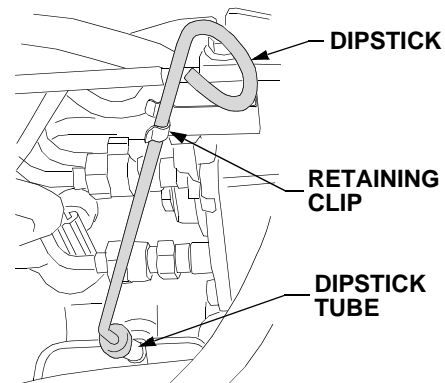
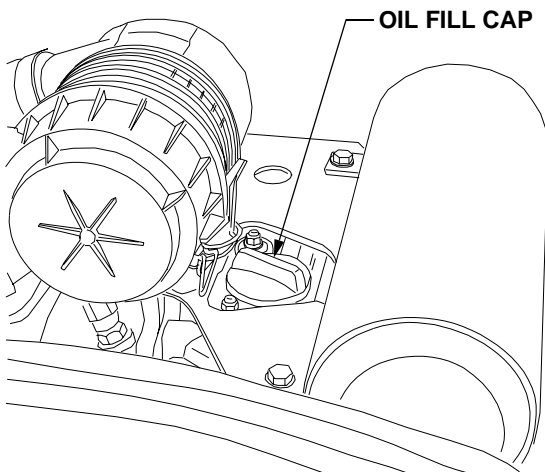

Figure 52
Figure 54
- Check the oil level only while the engine is stopped and the tractor is level. Clean the area around the oil level dipstick to prevent debris from entering the crankcase. See Figure 52.
- Clean the area around the oil filler cap to prevent debris from entering the crankcase. See Figure 54.
- Remove the dipstick and oil fill cap from the engine. Refer to Figure 52 and Figure 54.